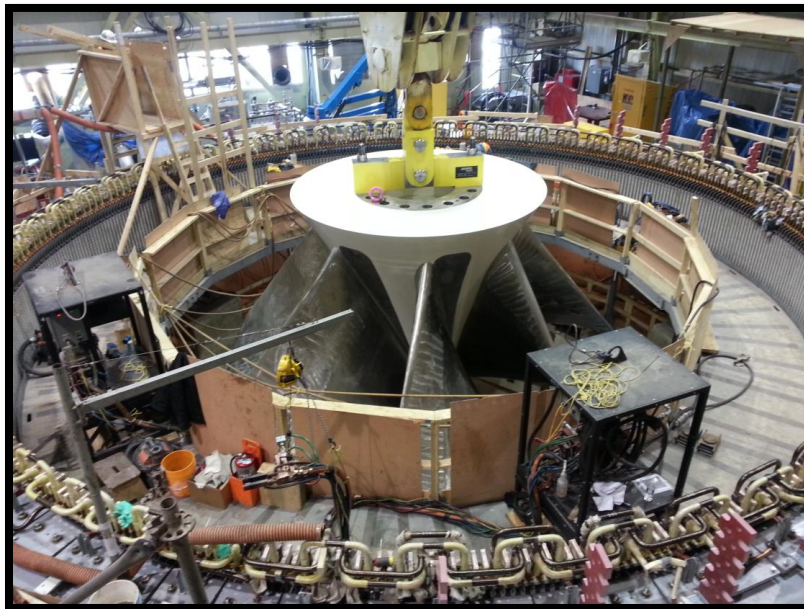

Figure 1: Little Long runner being placed in the turbine pit
- Andritz workers completed the assembly of the G3 runner in the Service Bay. A walk down was completed on the 20th. Punch list actions were cleared and the runner was placed in the turbine pit on March 23rd (Figure 1).